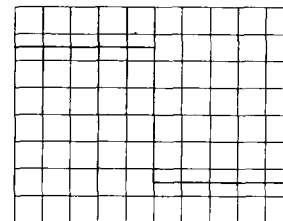

Fig.16. Calibration
3. The displayed square wave when properly centered should be 5 divisions high and 10 divisions long.(5 division positive, 5 divisions negative) (see Fig. 16)